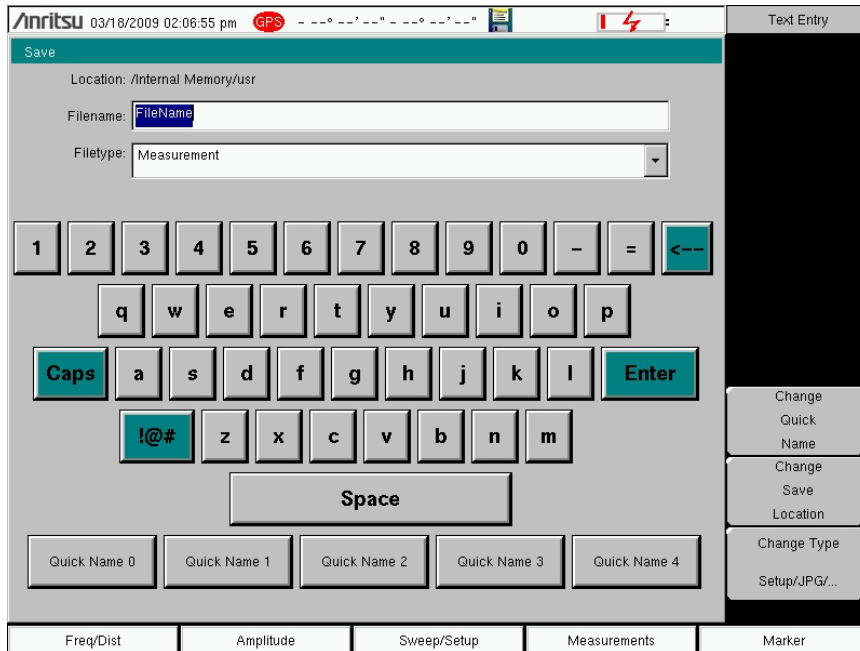

Figure 4-1. Save Dialog Box
The **Save Measurement As** key is used to quickly save measurements with a specific file name. The Site Master saves the measurement with the latest file name that was used to save a measurement and with a number that is automatically incremented and appended to the end of the file name. For instance, if the last measurement was saved with the name **System Return Loss**, **Save Measurement As** saves the next measurement as **System Return Loss_#1**, **System Return Loss_#2** etc. The file name used can be changed using the **Save** dialog box (Figure 4-1).
The save dialog box (Figure 4-1) is used to store files on the internal memory or an external flash drive. The file type, file name, and save location are set at this display. See “Save Menu” on page 4-8 and “Save Location Menu” on page 4-8 for details.
Quick Name keys below the keyboard in Figure 4-1 allow users to enter quick names for frequently used file measurement names. To edit the keys, press the **Shift** key, then the **File** (7) key. Press **Save** then the **Change Quick Name** key, select one of the **Quick Names** for editing, press **Enter** and enter the new name for the key. Press **Enter** again and the new name will be displayed on the key.
<p>Change Quick Name: Press this submenu key to change the Quick Names at the bottom of the touch screen keyboard (Figure 4-1). Select the Quick Name to edit and press Enter. Type the new Quick Name and press Enter again. The new Quick Name will display on the button below the keyboard.</p> <p>Change Save Location: Press this submenu key to open the “Save Location Menu”.</p> <p>Change Type: Press this submenu key to select what type of file is saved. The options are the Measurement, Setup, or Jpeg. The file type can be changed with the Up/Down keys, the rotary wheel, or the touch screen.</p> <p>Setup (.stp): Setup files contain basic instrument information, measurement mode setup details, measurement marker data, and limit data.</p> <p>Measurement: Measurement files contain all of the information in the setup files and the measurement data.</p> <p>Jpeg (.jpg): Jpeg files contain a screen capture of the display.</p> <p>Limit Lines (.lim): The Limit line file contains limit line data details.</p>
Sort By	Figure 4-1 on page 4-2 shows the Copy dialog box with two Jpeg images and one folder (including the folder's contents) selected and ready to be copied to the USB flash drive. Highlight a folder and press Enter to view the contents.